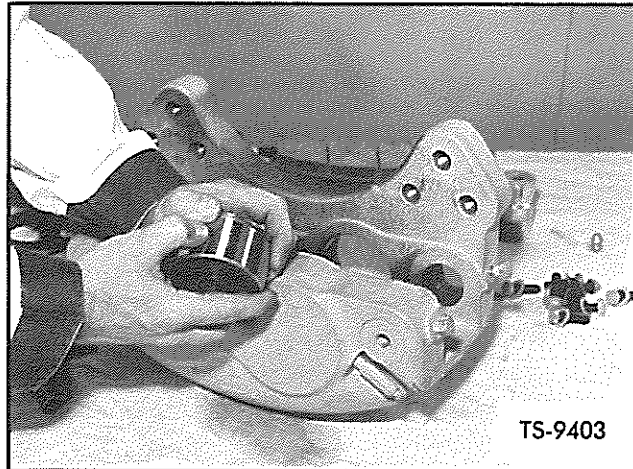

Fig. 20. Inspect Pistons
11. Inspect pistons for minor scratches and nicks and blend with crocus cloth. If piston is badly scratched, nicked, or worn, replace piston. Piston showing evidence of excessive wear or rubbing off of the chromed surface will cause undue friction and must be replaced. Visually inspect pistons as shown in Figure 20.